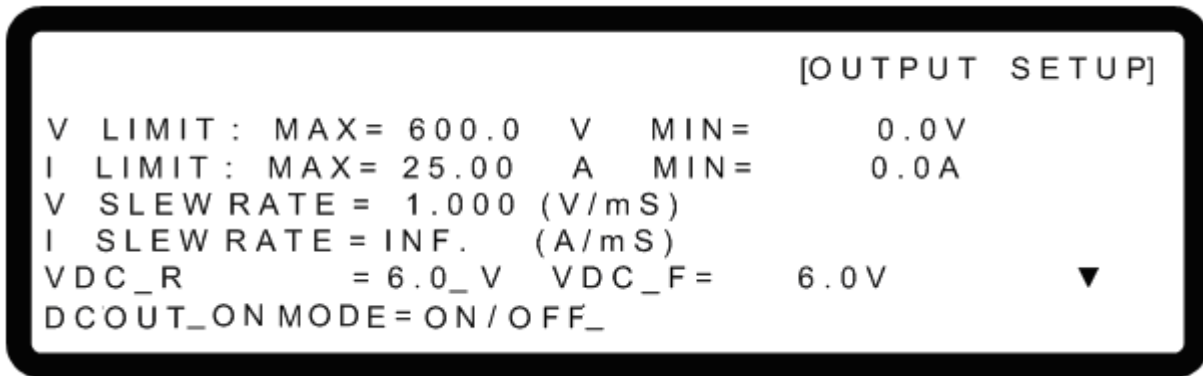

Figure 3-26
- Method 2: Use “”, “”, “”, “” keys to move the cursor to the column to be set as Figure 3-26 shows.